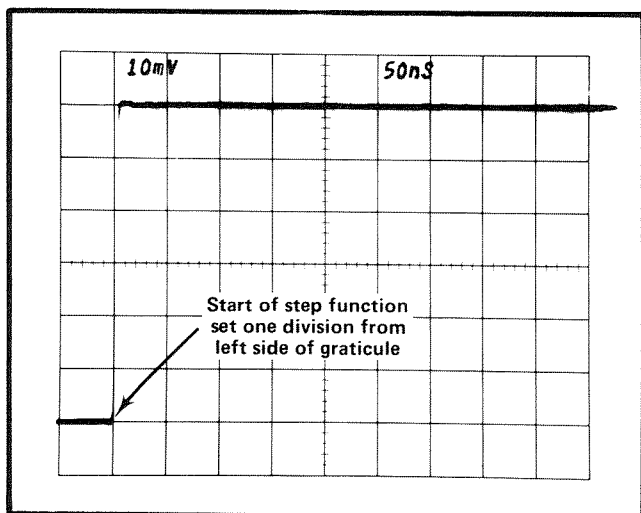

Fig. 5-13. Step function position for transient response adjustment, step 12.
(8) Set the top of the display to graticule center, using the 7A11 POSITION control. Then switch the 3S1 Channel A and Channel B mVolts/Div controls to 5 mV. Re-adjust the 7A11 POSITION control to keep the top of the display at graticule center.
(9) CHECK—Display should be similar to that observed in step 12-d (7). Deviation should be approximately within ± 1 division, which is equal to $\pm 2\%$.
(10) Repeat the transient response adjustments listed in Table 5-6, striving to duplicate the mean trace shape recorded in step 12-d (7).
(11) Remove the Extender (and attached 7A11) from the plug-in compartment.
(12) Install the 067-0587-00 Calibration Fixture (item 9) in the vertical plug-in compartment. Switch it to 250 kHz, + Step Response, and adjust the Amplitude to obtain a centered 6-division display. Switch the sweep rate to $.05 \mu\text{s}/\text{division}$ and set the step function to occur at the second line from the left of the graticule as in Fig. 5-13. Note the shape of the top-left corner of the pulse. It will be used as a reference.
(13) Install the 7A11 directly into the Oscilloscope vertical compartment.
(14) Adjust the Type 106 Square Wave Generator + Transition Amplitude to obtain a 6 division, 250 kHz display. Position the display as in Fig. 5-13. The step function should be essentially the same as that provided by the Calibration Fixture.